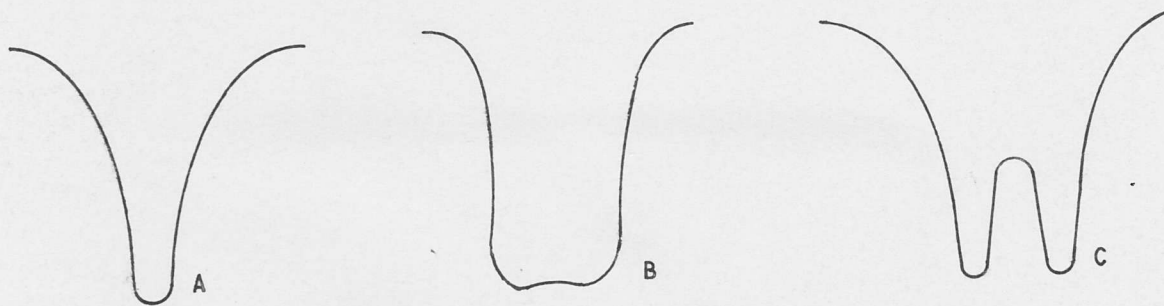

FIG. 2
- 3.4 Reverse the filter and repeat section 3.3. A trace similar to A, B, or C in fig. 2 should now be displayed.